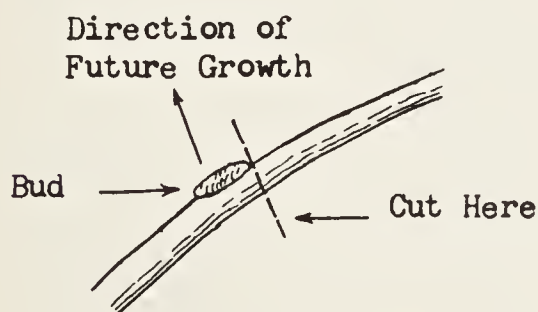

Figure 8
- 5.1 Top trimming must be repeated, usually each year. Directional trimming directs growth away from the wires and will usually prove more economical. Tree growth can be controlled and future trimming requirements reduced by directional trimming and cutting limbs at the proper spot. Figures 8 and 9 of Exhibit A illustrate methods of making cuts to control future growth. Exhibit B indicates tree species subject to successful directional trimming.